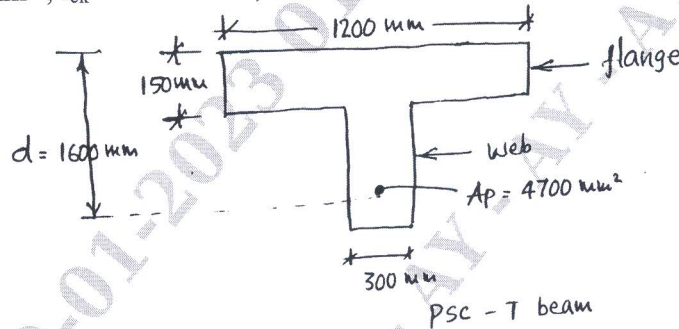

Fig.Q5(b) (08 Marks)
- b. Find the ultimate moment of Resistance of T-beam shown in Fig.Q5(b). Area of prestressing steel ( $A_{ps}$ ) 4700 mm2;  $f_{ck} = 40 \text{ N/mm}^2$ ;  $f_{pu} = 1600 \text{ N/mm}^2$ ;  $d = 1600 \text{ mm}$ .